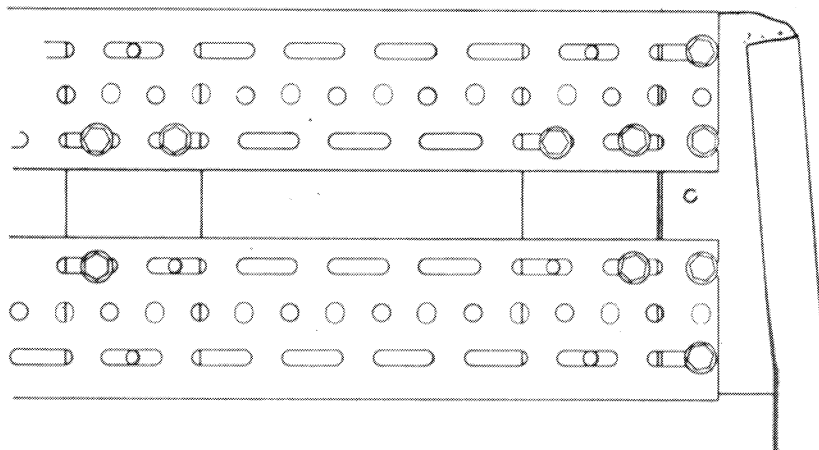

Fig. 11 Location of brackets, support, equipment rack
2. Using 12 off M8 x 20 bolts, nuts and washers, loosely bolt the two brackets, support, equipment rack (5985-99-645-0294) between the angles, perforated equipment rack. Locate one bracket up against the righthand support, equipment rack, and the other approximately 250mm (10 inches) away as in fig. 11. Fit the bolts in the positions indicated in fig. 11. Pass the bolts through so that the boltheads are to the rear of the vehicle.